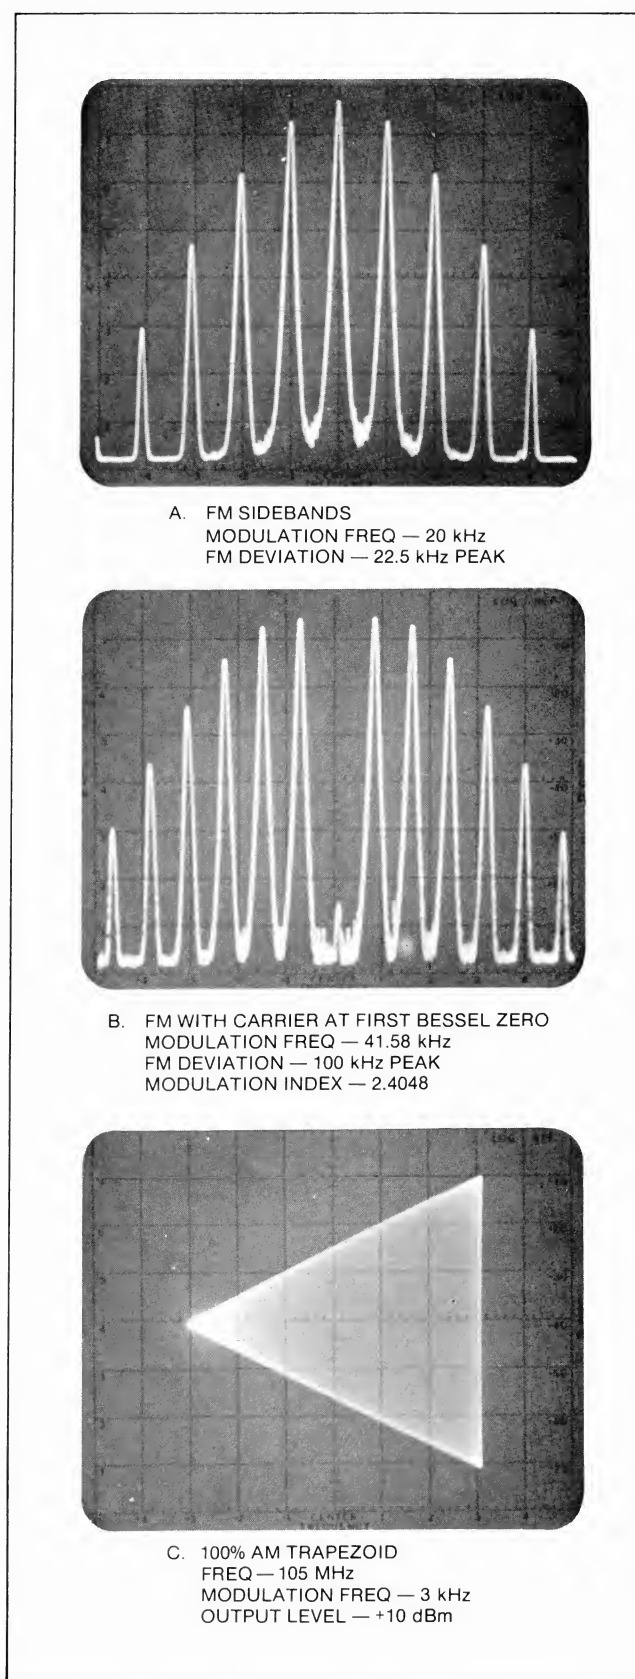

Figure 1-5 FM/AM Modulation Characteristics
d. FM/AM Modulation Capabilities. (See Figure 1-5.) The Model 102D is the ideal instrument for a wide variety of test applications because of its flexible modulation capabilities. FM and AM, using either internal or external modulation signals, can be used either singly or simultaneously. FM deviation is calibrated to an exceptionally wide 300 kHz in five ranges, and can be increased to over 1 MHz uncalibrated. The FM bandwidth extends from 50 Hz to 200